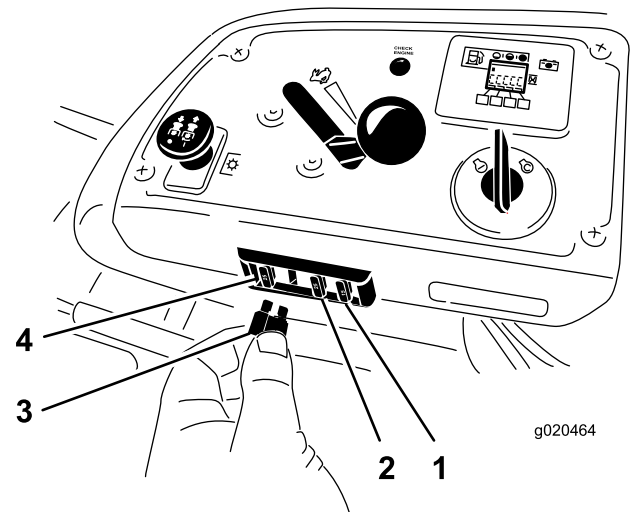

Figure 58
1. The fuses are located on right hand console next to the seat (Figure 58).
3. Install a new fuse (Figure 58).